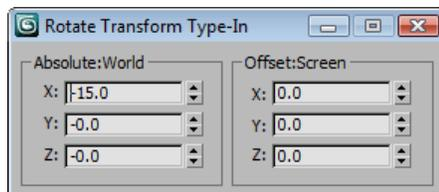

Figure 2-59 The Rotate Transform Type-In dialog box
- In the **Absolute:World** area, set the value **-15** in the **X** spinner, as shown in Figure 2-59 and then press the ENTER key; the *horizontal back support005* gets rotated, refer to Figure 2-60. Now, close the **Rotate Transform Type-In** dialog box.